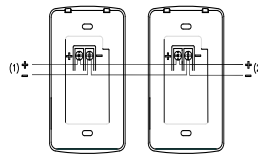
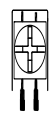

Figure 2: LED Strobe Wiring
Figure 3: Wire Connection
• Break all in-out wire runs on supervised circuits to ensure integrity of circuit supervision as shown in Figure 3. The polarity shown in Figure 2, the wiring diagram, is for the operation of the appliances. The polarity is reversed by the FACP during supervision.